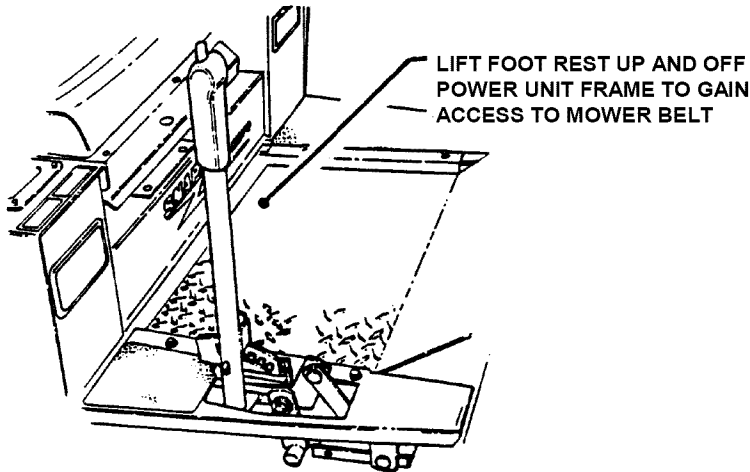

FIGURE 3.3
- b. Remove foot rest. See Figure 3.3.